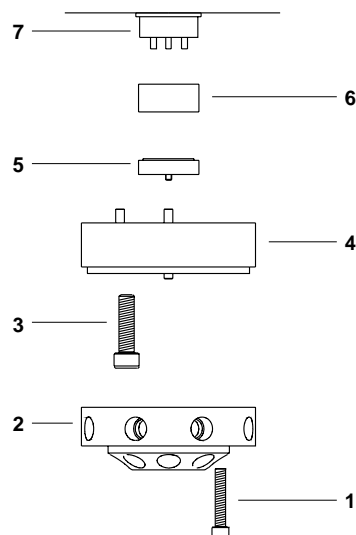

Fig. 11. Exploded view of valve.
- (1) To disassemble the valve, refer to Figures 11 and 12 and proceed as follows:
- (2) With the Hex Key provided, remove the Stator Screws (1) from the Stator (2).
- (3) Remove the Stator and Stator Face Assembly (5) from the Stator Ring (4). The Stator Face Assembly usually remains on the Stator.
- (4) Use the Hex key to remove three Stator Ring Screws (3) from the Stator Ring.
- (5) Remove the Stator Ring (4).
- (6) Remove the Rotor Seal (6) from the valve Body (7). The Rotor Seal is mounted on three pins, and can be pulled off.
- (1) Refer to Figures 11 and 12 and proceed as follows:
- (2) Mount the new Rotor Seal (6) with the slots facing the Stator (2). The three pins (8) on the Shaft Assembly fit into the mating holes (9) in the Rotor Seal only one way.
- (3) Replace the Stator Ring (4) so the two short pins on the ring enter the mating holes in the Body (7).
- (4) Replace and tighten the three Stator Ring Screws (3). Tighten each an equal amount until the Screws are finger-tight, then turn another half turn.
- (5) Mount the new Stator Face Assembly (5) onto the Stator (2). The two pins on the assembly fit into the mating holes in the Stator.
- (6) Replace the Stator (2) and Stator Face Assembly (5) on the valve so that the pin in the Stator Ring enters the mating hole in the Stator.
- (7) Replace the Stator Screws (1) into the Stator. Tighten each an equal amount until the screws are finger-tight, then turn another half turn.